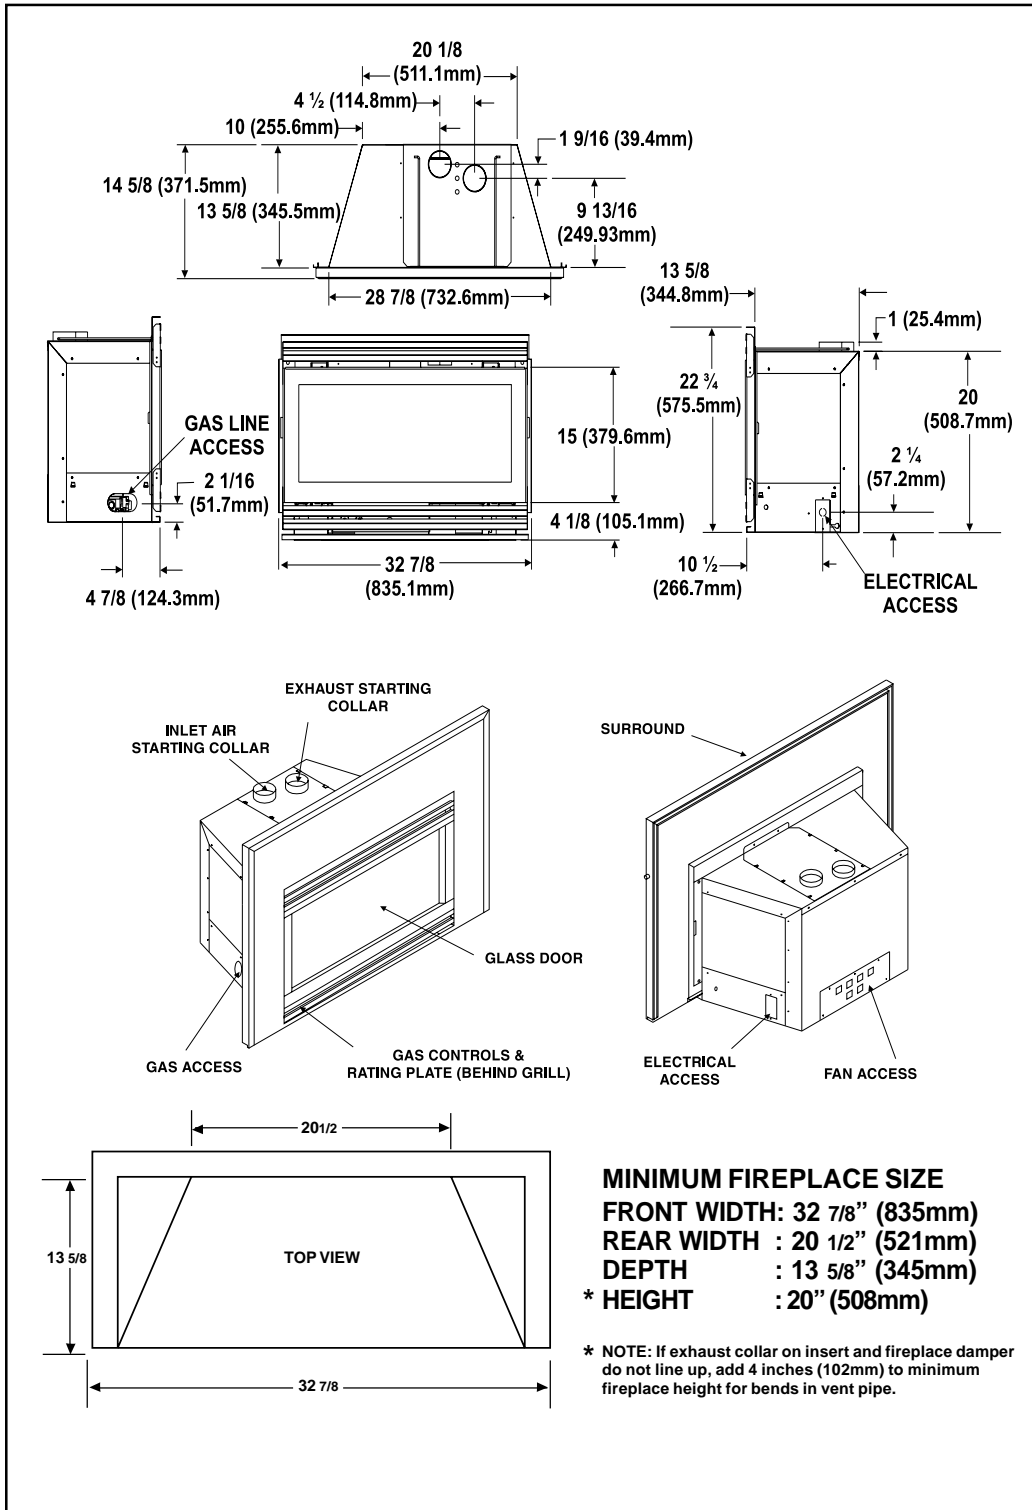

Figure 1. Diagram of the AT-Supreme
2. Minimum fireplace opening requirements are shown in Figure 1 of this installation manual. The firebrick (refractory) can be removed from a factory built fireplace in order to gain minimum gas insert opening requirements.